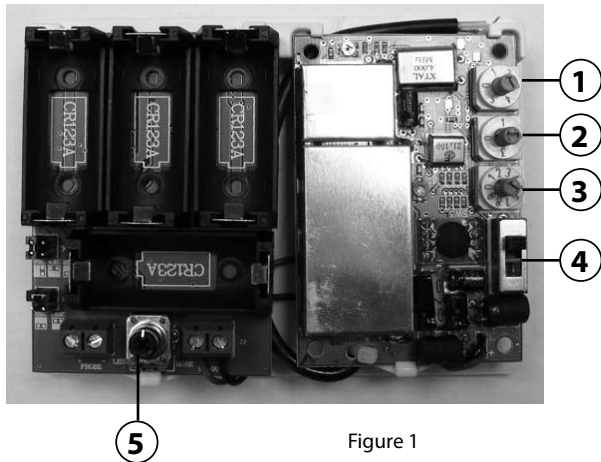

Figure 1
D. To locate the radio transmitter, you will need to open the front cover of the exterior case. You will now see the radio transmitter (Figure 1). To change the settings of the radio transmitter, please go through the procedure in the next section.